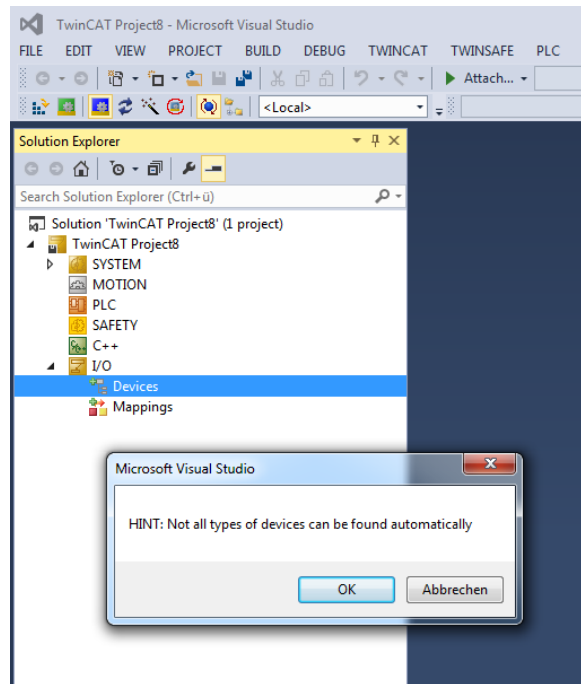

Figure 6.2: TwinCAT - Scan / Message
- Confirm the message shown in Figure 6.2 with "OK".